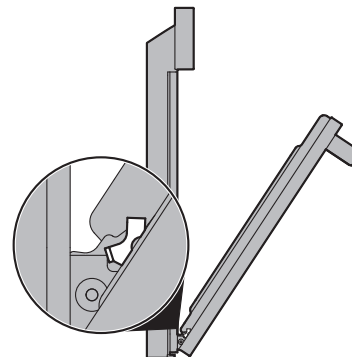

Figure 30: Removal position
3. Grasp the door by the sides, and close the door until the door frame makes contact with the unlocked hinges (Figure 30).
2. Hold the oven door at the same angle as the removal position (Figure 30). Carefully insert the hinge levers into the oven frame until you feel the hinge levers are seated into the hinge notches. The hinge arms must be fully seated into the hinge notches before the oven door can be fully opened.